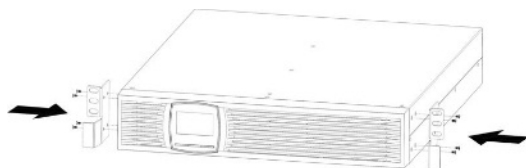
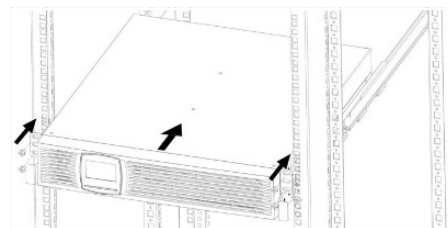

Figure 12: Mounting the brackets
Figure 13: Fitting in a rack
7. Secure the mounting bracket of the UPS system in the rack (see Figure 12 and Figure 13).